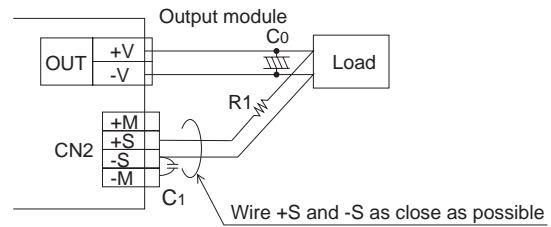

Fig.3.2 When using remote sensing function
■ Wiring method with remote sensing is shown in Fig.3.2.
① Note connecting wires enough because the load current flows to sensing line and an internal circuit of power supply is damaged occasionally, when defective contact of the screw such as loosening happens in the load line.
② Confirm line drop should be at 0.3V or less using a thick wire from the power supply to the load.
③ When remote sensing function is used, output voltage might become unstable because of a impedance of wiring and load condition. And the power supply should be evaluated enough.